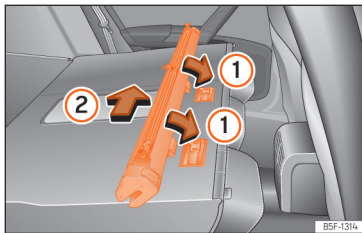

Fig. 192 Assembling the net partition in the rear seat backrests.
- Place the net casing in the rail slots in the direction of the arrows »» Fig. 192 ①.
- Push the casing towards the left side of the vehicle in the direction of arrow »» Fig. 192 ②.
- Pull the net casing out approximately 5 cm in the opposite direction to the arrow »» Fig. 192 ②.
- Remove the casing from the rails by pulling in the opposite direction to the arrows »» Fig. 192 ①.